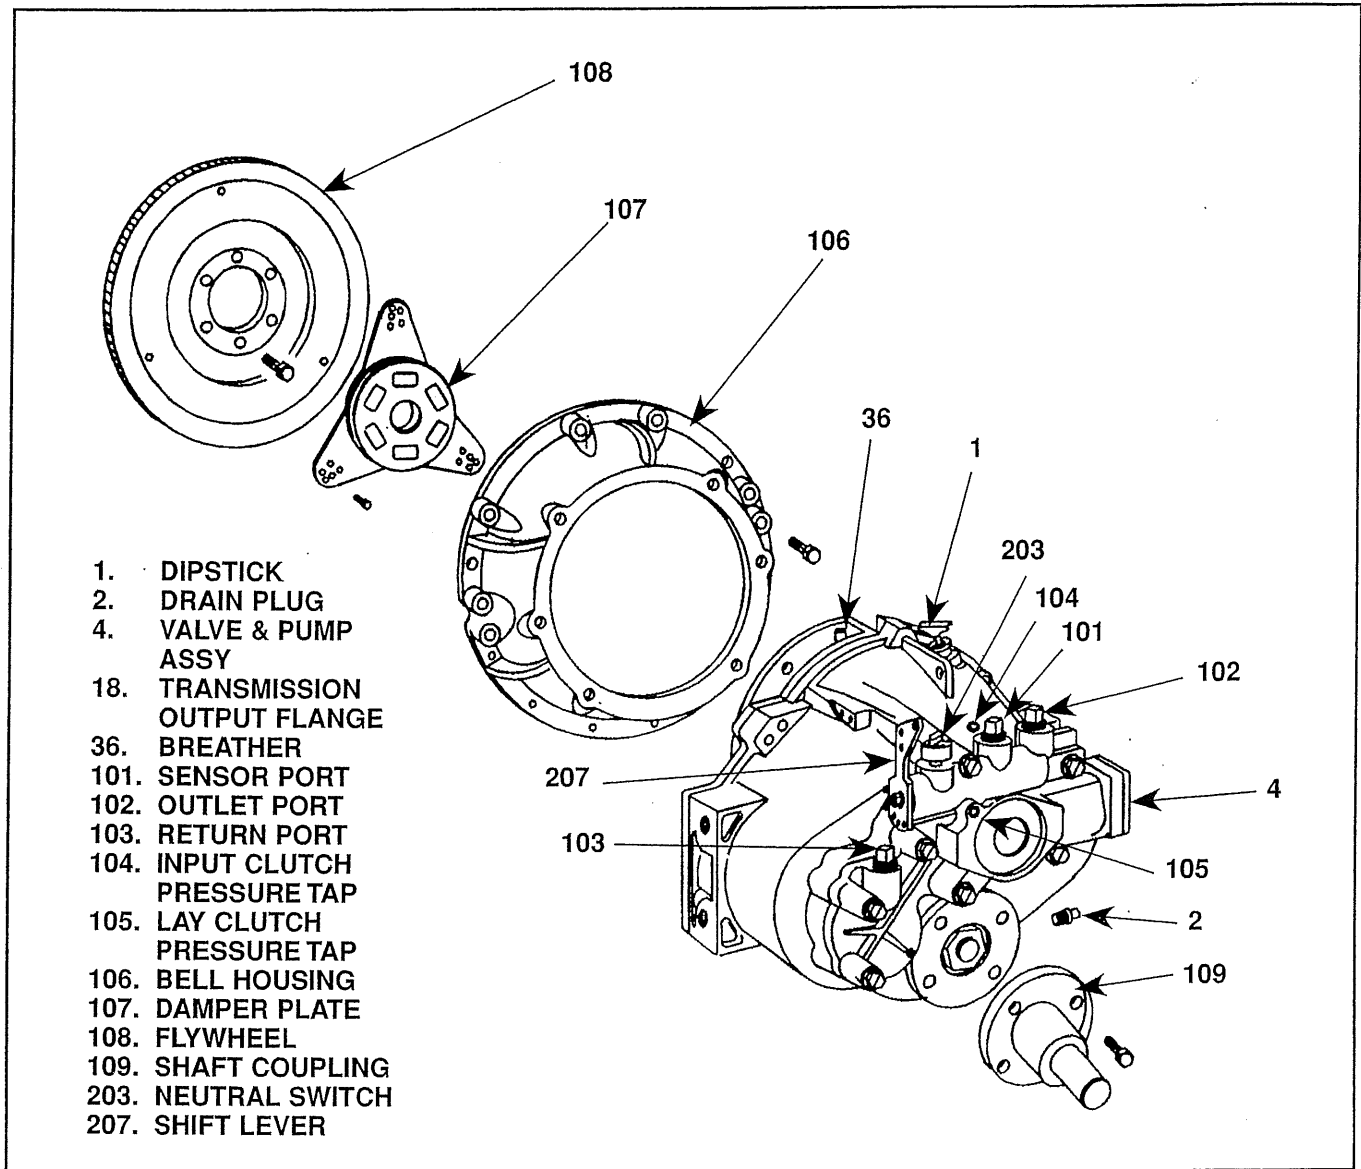

Figure 2-2. Transmission Installation
1. Place a suitable container near the oil (fluid) cooler return port (103) (see figure 2-2).
3. Remove the dipstick (1) as described in paragraph 2-6.
4. Place a suitable container under the transmission and remove the drain plug (2). Drain all fluid from the transmission and install the drain plug. Torque plug to 20-45 lb-ft (27-34 Nm)
**2-17. TORSIONAL VIBRATION.** The delivery of power from a piston engine is not smooth but rather comes in pulses. The engine flywheel uses inertia to smooth out some but not all pulsation. That remaining pulsation is called torsional vibration. In marine applications a damper plate (107, figure 2-2) is used to absorb the torsional vibration by compressing and relaxing a system of springs. The damper must be selected carefully. If its springs are inadequate for the application, damage to the transmission and damper plate itself will result. Proper damper selection is the responsibility of the boat manufacturer, or whoever matches the engine and transmission to the application—not Borg Warner. Borg Warner is not responsible for torsional vibration or any resulting damage to the transmission or other power train components.
**2-23. REMOVAL OF TRANSMISSION.** Refer to the OEM manual for specific instructions regarding enclosures, mounts, supports, shift linkage and other components related to the transmission. A suitable hoist or other means for completely supporting the transmission will be required. Proceed as follows (see figures 2-2 and 2-7):
2. Disconnect electrical connectors from neutral switch assembly (203) and sensor in port (101) (if used) on transmission.
4. Disconnect shift linkage from transmission shift lever (207).
5. Remove coupling nuts and bolts and separate propeller shaft coupling (109) from the transmission output flange (18).
8. Remove all hardware attaching transmission to bell housing (106).